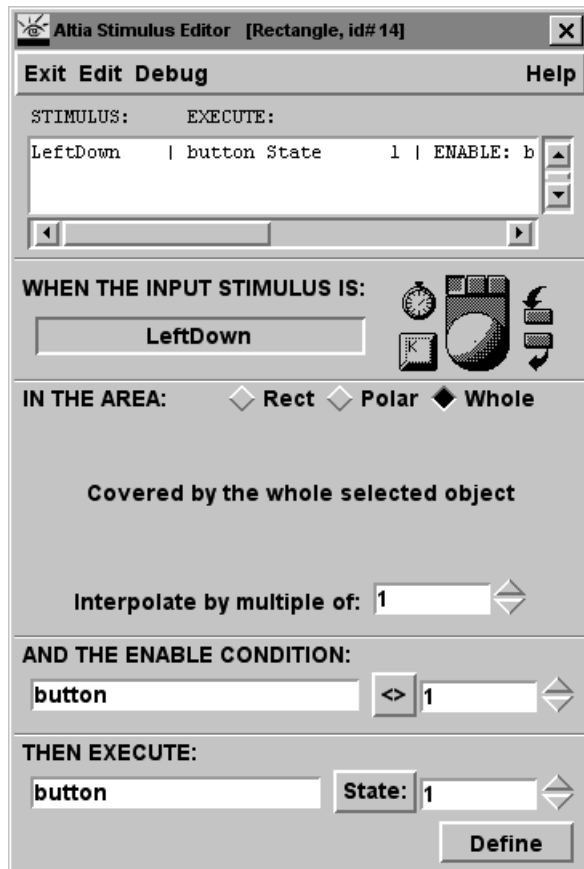

FIGURE 4-14 LeftDown Stimulus Definition
5. In the **WHEN INPUT STIMULUS IS** section (the top-most section) of the Stimulus Editor, click on the left mouse button graphic to change the input stimulus to LeftDown (see Figure 4-14).
6. In the next section (**IN THE AREA**), click the **Whole** radio button to indicate that we want our button to be sensitive to left clicks over its entire area (see Figure 4-14).
7. In the **AND THE ENABLE CONDITION** section, type `button` in the first field, click on the relationship button (initially labeled with “=”) to choose `<>` and then put 1 in the value field (see Figure 4-14).
8. Lastly (for this stimulus definition, anyway), in the **THEN EXECUTE** section, type **button** in the first field and then put **1** in the state field. Click the **Define** button (see Figure 4-14).